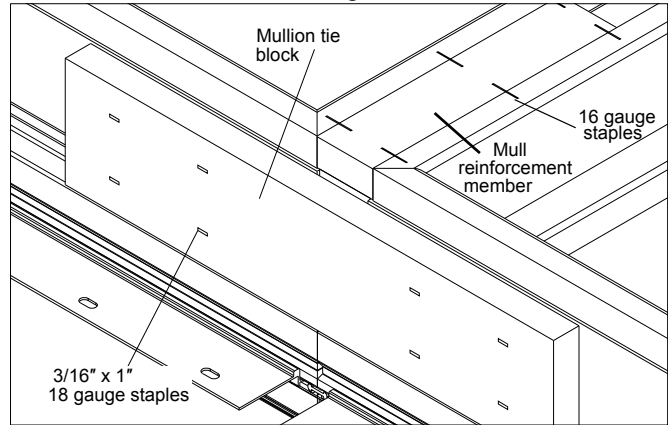

Figure 9
5. Attach mullion tie blocks at junction points with at least four 3/16" x 1" 18 gauge staples on each side of mullion as shown in figure 9.